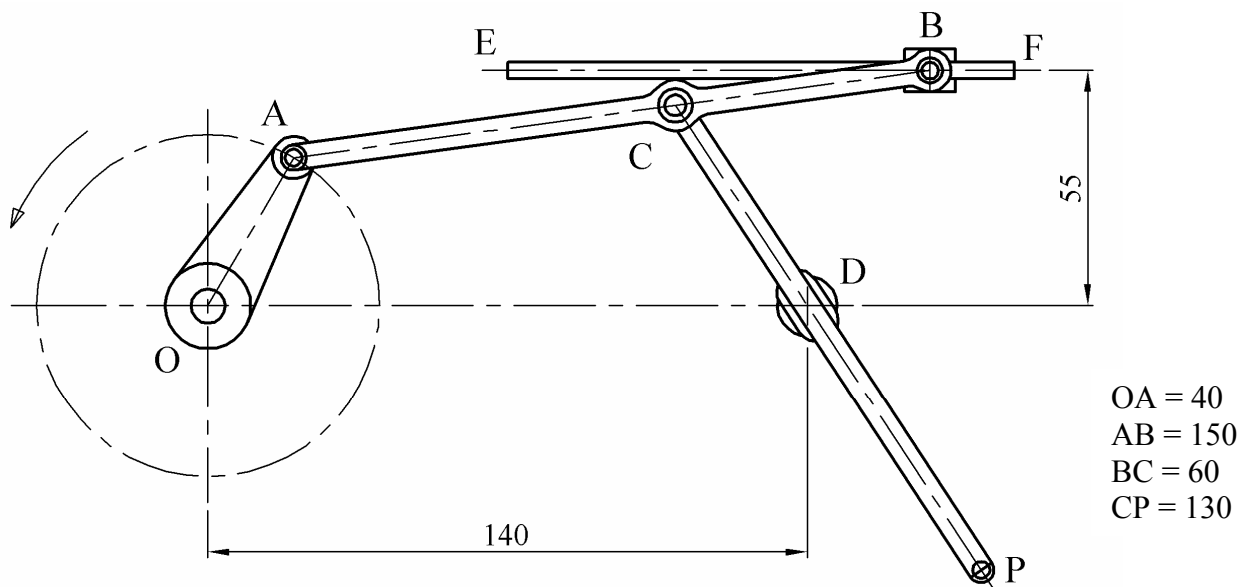

Fig. 3
- (b) Fig. 3 shows a link mechanism. Crank OA rotates in an anti-clockwise direction about the fixed point O. A and C are pin joints. The end B of the link AB slides horizontally along the rail EF. The link CP is constrained to slide through the fixed pivot D.